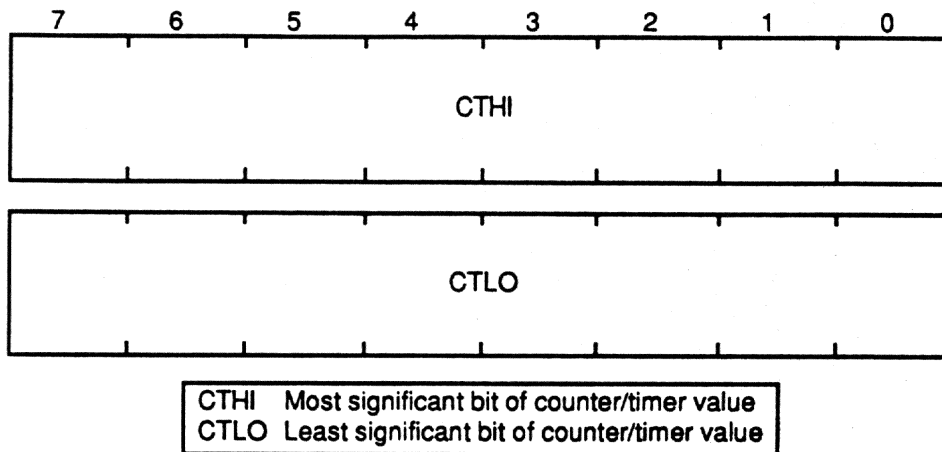

Figure 7-11: The DUSCC Counter/Timer Registers
7.2.10.3 Counter Timer (CTH and CTL) - Each channel has a pair of counter/timer registers. Each pair gives the current value of the counter/timer for the appropriate channel. As with the preset registers, two are needed for each channel to hold the 16-bit value. Figure 7-11 shows the names of the registers, and the values they hold.